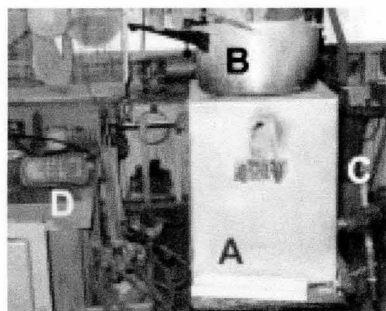

Figure 14: Experimental apparatus
Now to the experiment. The apparatus (Fig 14) consisted of a vertical gas forge (A), a large pot (B), a variety of burners (C) and a digital pyrometer (D).